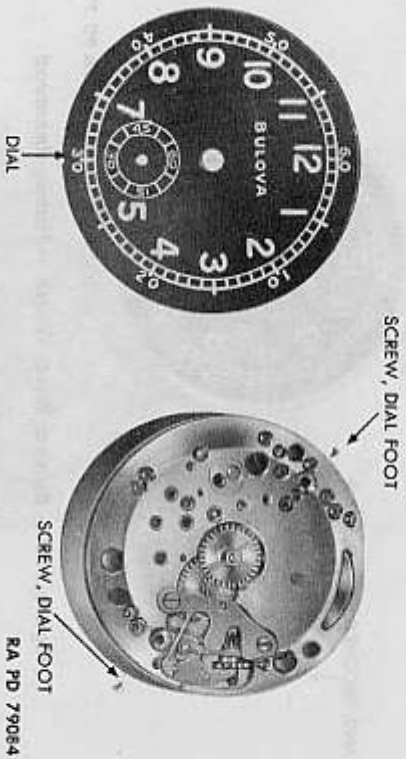

Figure 171 — Bulova Wrist Watch — Dial Removed
- h. Remove Dial (fig. 171). Loosen two dial foot screws two turns and lift off dial; then tighten dial foot screws to avoid losing them.
- p. Replace Dial (fig. 171). Loosen dial foot screws, install, and align the dial, and secure dial foot screws.